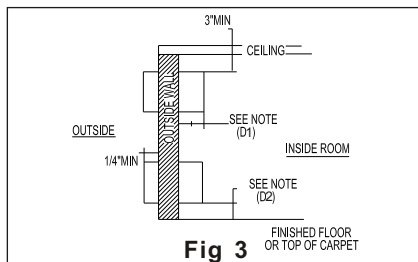

Fig 3
- E) There should be sufficient space margins around the unit to facilitate maintenance and repairs (refer to Figs 3 and 4)